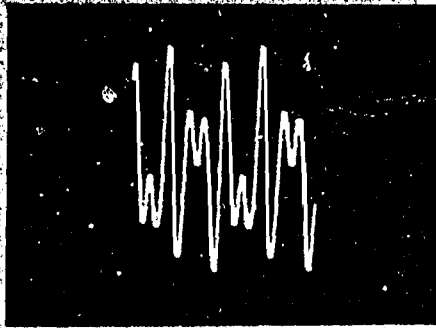

Fig. 3B
9. The mixed 90 Hz and 150 Hz signal at TP8 is not phase-locked. Restore Q5. The signal at TP8 should now lock in phase. See Fig. 3B.
12. With Delete switch in neutral position compare waveform at TP8 with Figure 3B. The balanced minor peaks indicate the correct phase relationship of the 90 Hz and 150 Hz signals. If the minor peaks are not balanced adjust L1 slightly to bring the peaks into balance.